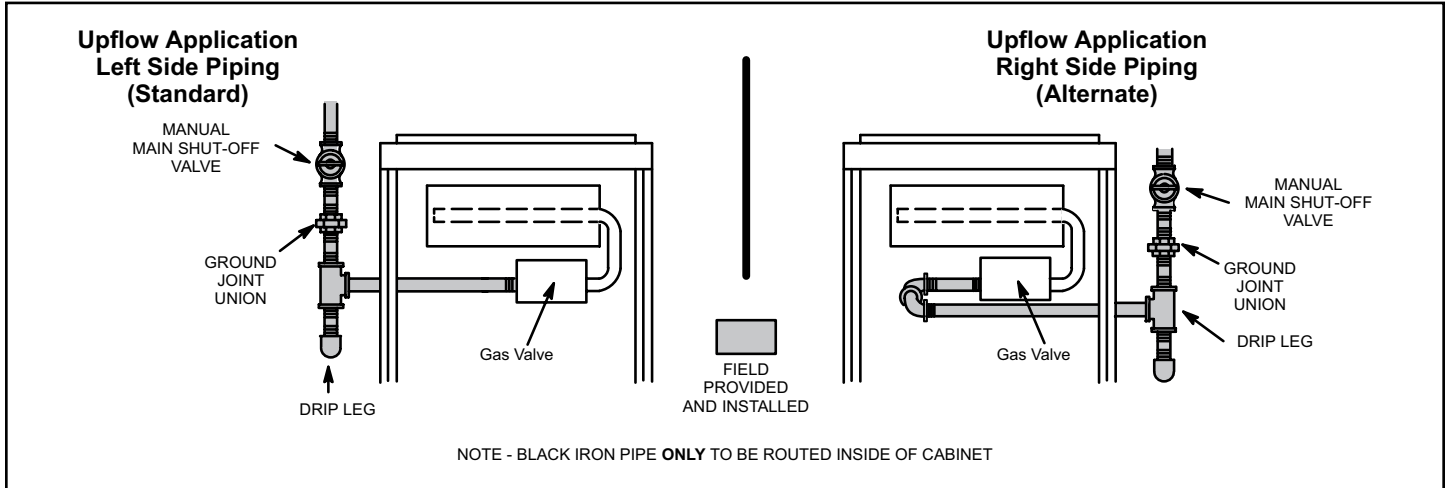
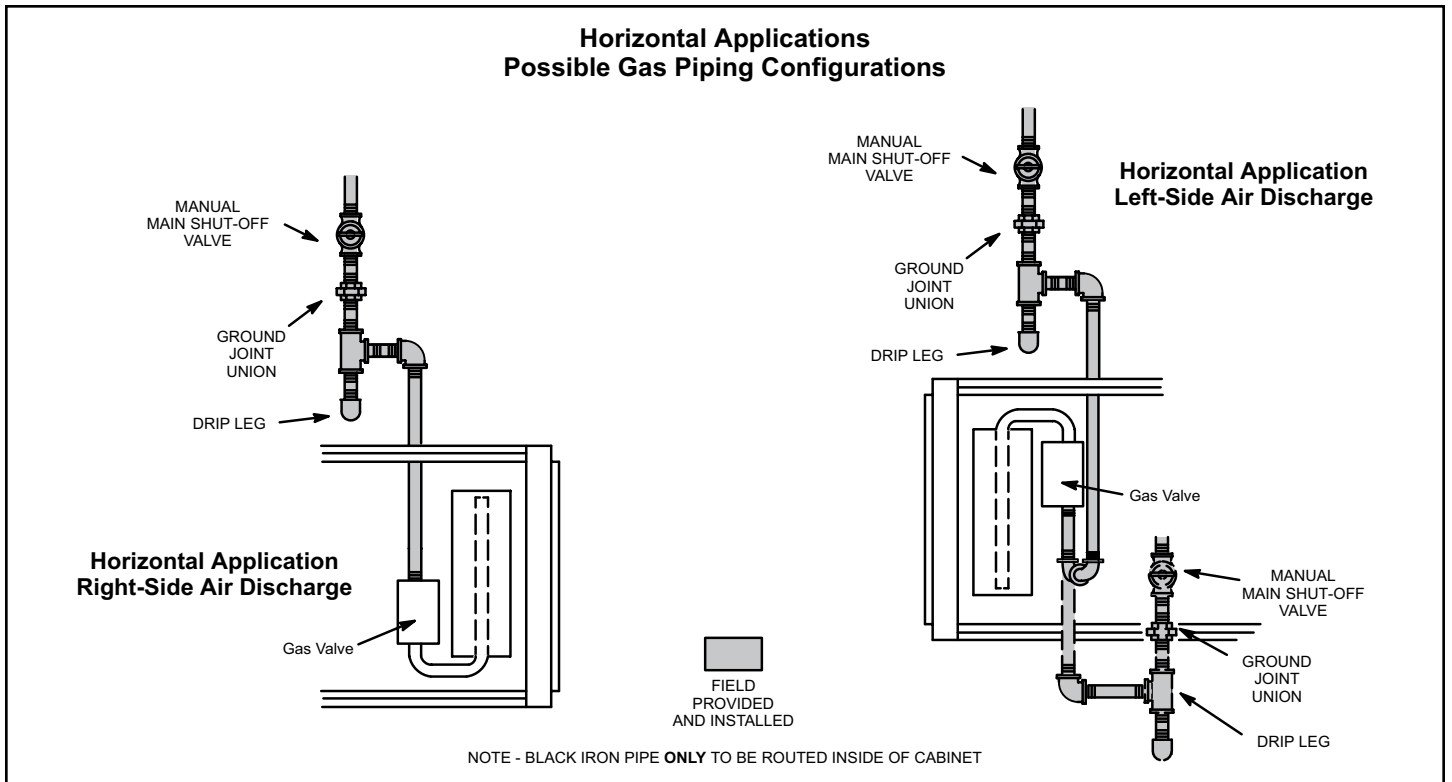

Figure 61. Gas Piping Upflow Applications
Figure 62. Gas Piping Horizontal Applications
- Gas piping may be routed into the unit through either the left or right hand side. Supply piping enters into the gas valve from the side of the valve as shown in Figure 61 and Figure 62.
- Gas piping must not run in or through air ducts, clothes chutes, chimneys or gas vents, dumb waiters or elevator shafts. Center gas line through piping hole. Gas line should not touch side of unit. See Figure 61 and Figure 62.